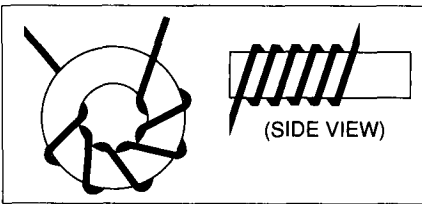

Figure 1.2 Use of ferrite core to block RF signals
- 1 Wind the power cord into an inductor to block the RF signal. A ferrite core may be used (see Figure 1.2).